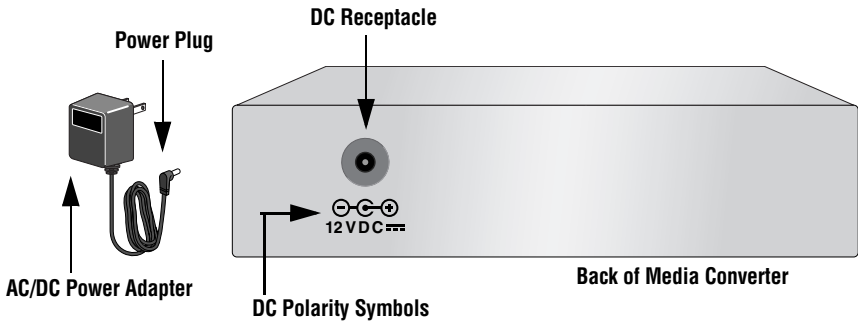

Figure 7 12VDC Connector on Rear Panel
5. Plug the AC/DC power adapter into an appropriate AC power outlet and insert the power plug into the DC receptacle located on the back of the unit. Refer to Figure 7 on page 10.